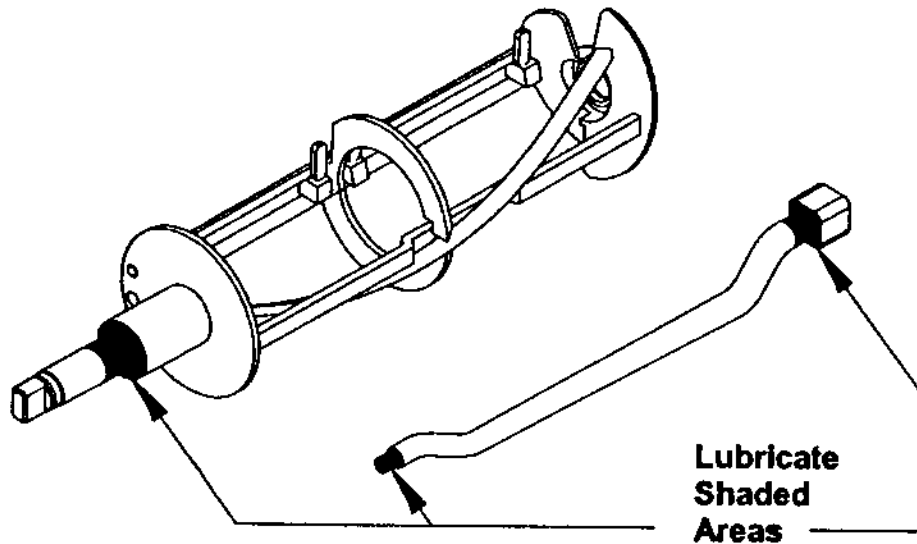
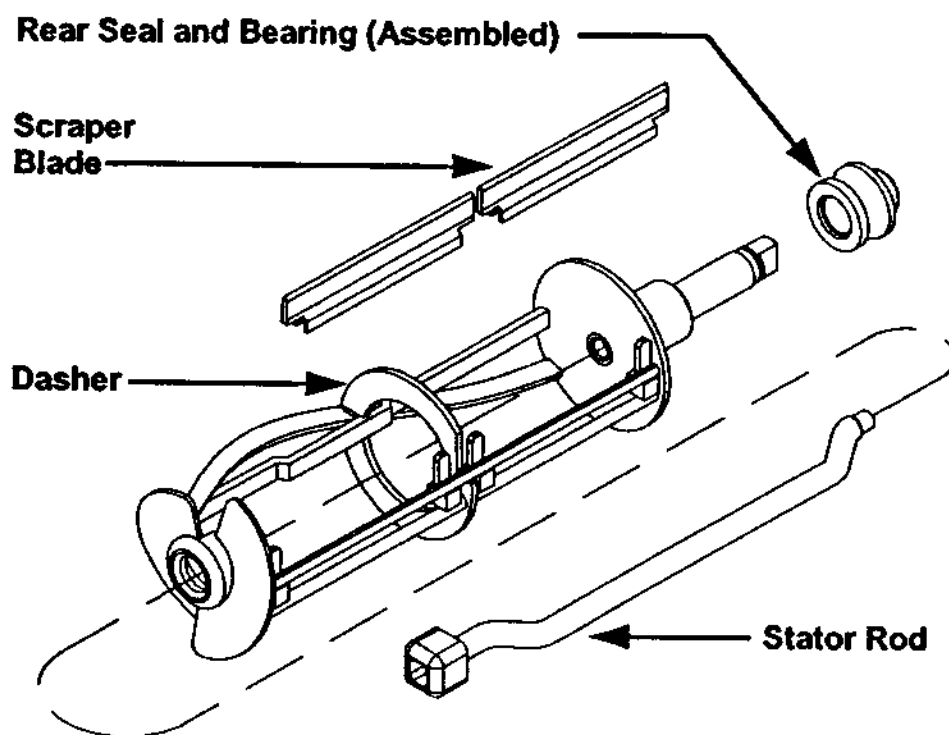

Fig. 12
Fig. 13
a. Apply a generous amount of lubricant to the shoulder of the dasher and the area of the shaft where the white plastic portion of the assembled rear seal contacts the shaft (Fig. 12). This is easily performed by running a 1/4" bead of lubricant around the shoulder of the dasher.
b. Lubricate the two areas of the stator rod (Fig. 12) and slide the stator rod into the dasher (Fig. 13). Be certain that the end of the stator rod is inserted into the hole at the rear of the dasher (Except on Model 407).
c. Assemble and install the rear bearing and seal with the rubber portion toward the rear of the freezing cylinder as indicated in Fig. 13.